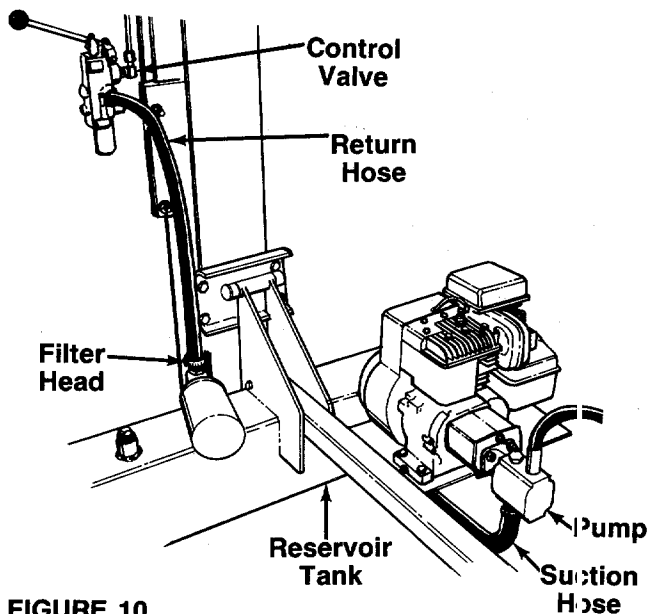

FIGURE 10.
2. Attach the end of the hose to the fitting on the bottom of the pump. See figure 10. Place the hose clamp at the base of the fitting, and tighten securely.
2. Attach the end of the hose to the fitting on top of the filter head. See figure 10. Place the hose clamp at the base of the fitting, and tighten securely.